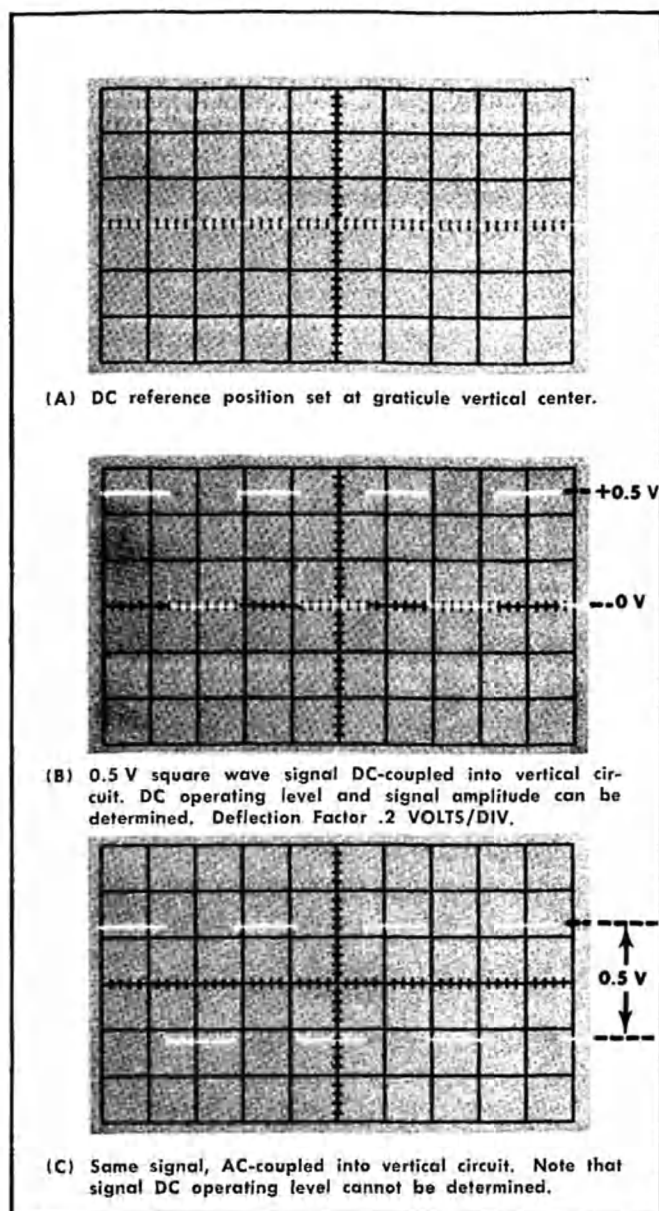

Fig. 2-5. DC versus AC input coupling.
Determine the number of divisions of separation between the previously established DC reference and the top of the square wave. Multiply by the value of the VOLTS/DIV knob setting and the probe attenuation factor. The position of the top of the trace is above the DC reference indicating a positive voltage. The bottom of the trace appears at the DC reference point. The trace is operating between 0 and +0.5 V DC. See Fig. 2-5(A) and (B).
11. Switch the INPUT control to AC. Note that removal of the DC component causes the trace to shift downward, centering around the previously established trace DC reference position. See Fig. 2-5(C).